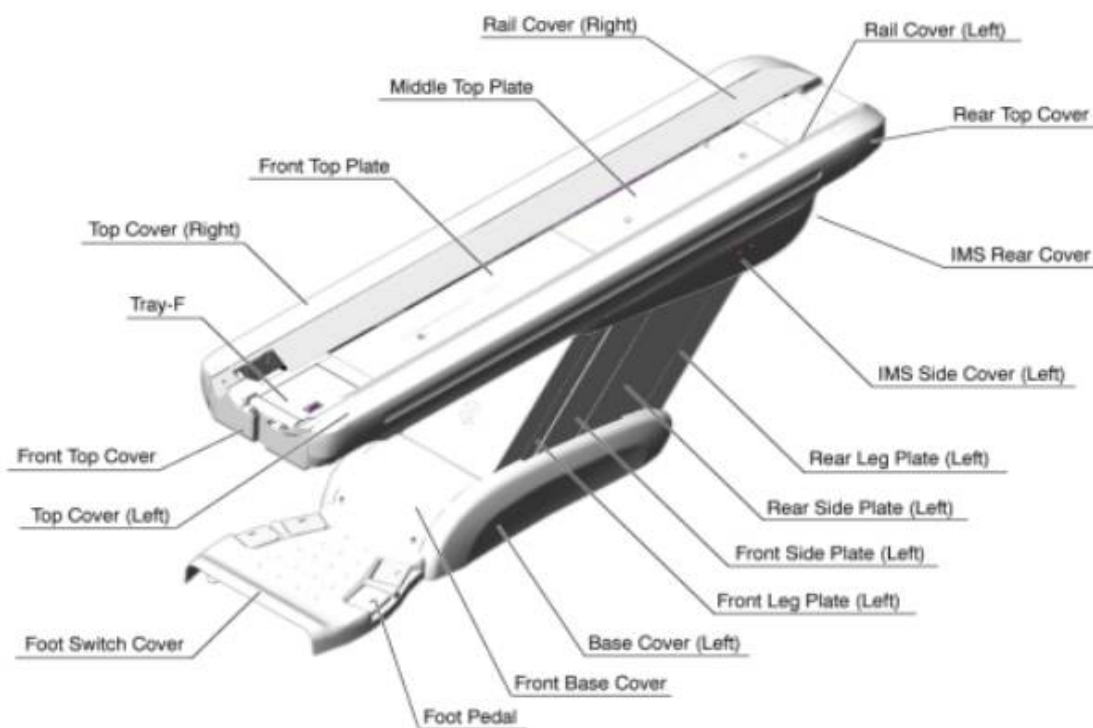

Figure 17 – Table Parts
5. Remove Top Covers (Right/Left) and the IMS Rear Cover and IMS Side Covers (Figure 17).
- c) Remove six (6) screws holding the both sides of the pump upper cover, and remove it.